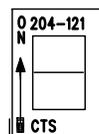

FIG. 1 TOP VIEW MOUNT
9. INSTALL SW1-SW2 AS SHOWN BELOW IN FIG. 1